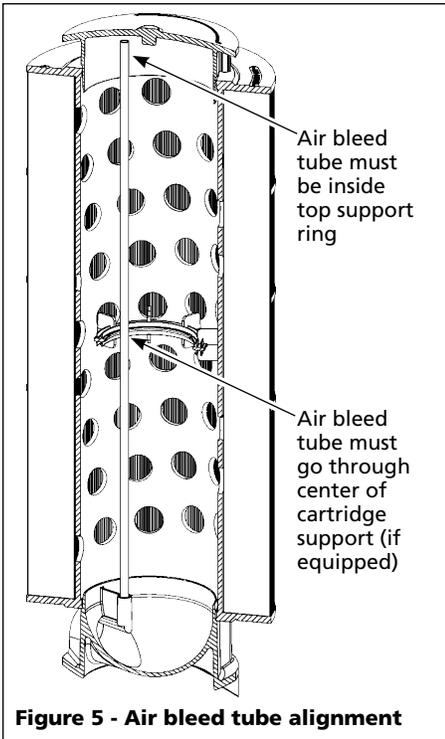

Figure 5 - Air bleed tube alignment
When installing the cartridge in the filter base, ensure the tube is inserted in the center portion of the cartridge support, if equipped (See Figure 5). This will help to ensure the tube is correctly positioned inside the top support ring of the filter housing.
2. Install the filter cartridge in the base of the tank, being careful to avoid the flow diverter in the inlet. Ensure the air bleed tube is correctly installed (Figure 5). Push down firmly to seal the cartridge.
water level. Also, check and clean air bleed tube (See Figure 5).